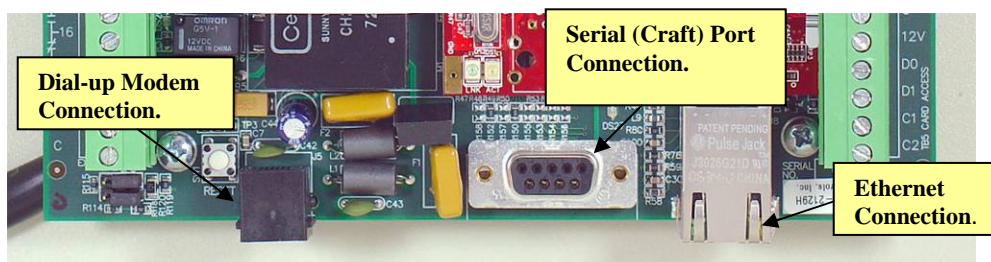

Figure 9: Bottom Panel of TELSEC® ESB with Connection Ports
Step 1: Connect the serial port on the bottom panel of the TELSEC® ESB to the serial port of a laptop using the 9-pin RS232 cable (Figure 9).
Step 1: Connect the telephone cable from the phone jack to the phone port on the TELSEC® ESB (Figure 9).
Step 1: Connect the supplied Ethernet cable to the RJ45 connector on the bottom of the TELSEC[®] ESB (Figure 9). Connect the other end to your facility's router in the assigned spot. If the router is not present, then route the cable to the area where the router will be installed and label the cable.